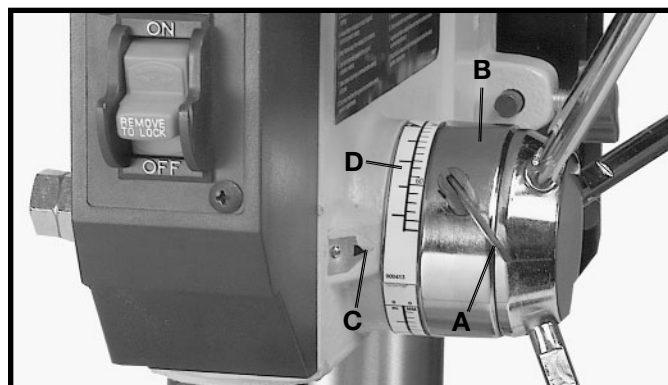

Fig. 31
1. Loosen lock screw (A) Fig. 31, and rotate housing (B) until the pointer (C) lines up with the desired depth indicated on scale (D). Then tighten lock screw (A).
2. All holes will then be drilled to the exact depth as indicated on scale (D) Fig. 31. **NOTE:** Scale (D) is calibrated in both inches and millimeters.